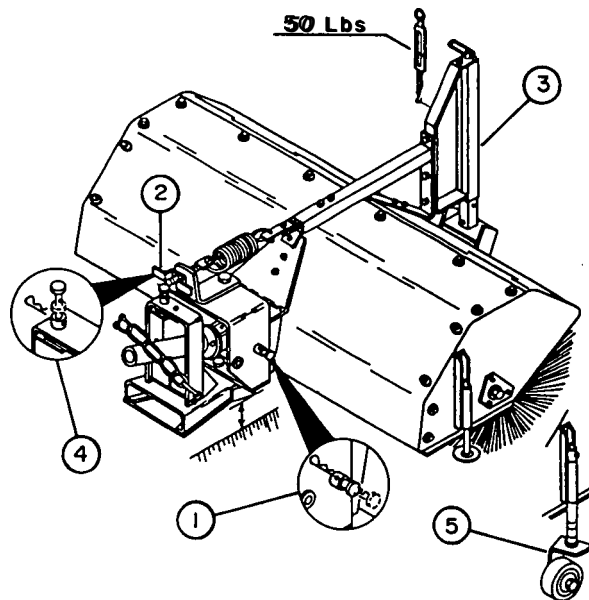

FIGURE 1
**NOTICE** Before operating, make sure broom pivot lock (fig.1, item 1) pin is in its most extended position to allow broom to follow ground variations.
Turning the ground contact wing nut (fig.1, item 2) in a clockwise direction decreases brush ground contact. Turning ground contact handle counterclockwise increases brush ground contact and must be used only to compensate brush wear.
Set broom head parallel to female hitch and place pin (fig.1, item 4) in "lock" position to prevent broom from oscillating side to side. This feature was designed to prevent uneven brush wear, unlock pin only for light duty work on uneven ground or when using side casters.